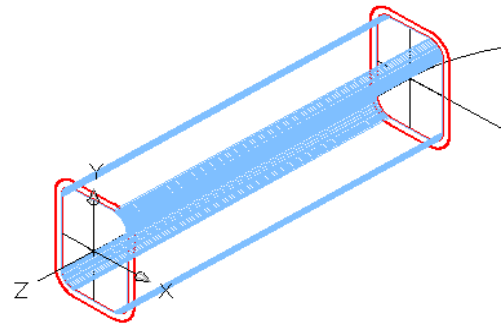

Figure Step 11
Step 11 With the UCS in Front, SURFTAB1 set to 48 and layer Surface as the current layer, enter the TABSURF command shown below to create the surface for the inside of the tube. See Figure Step 11.